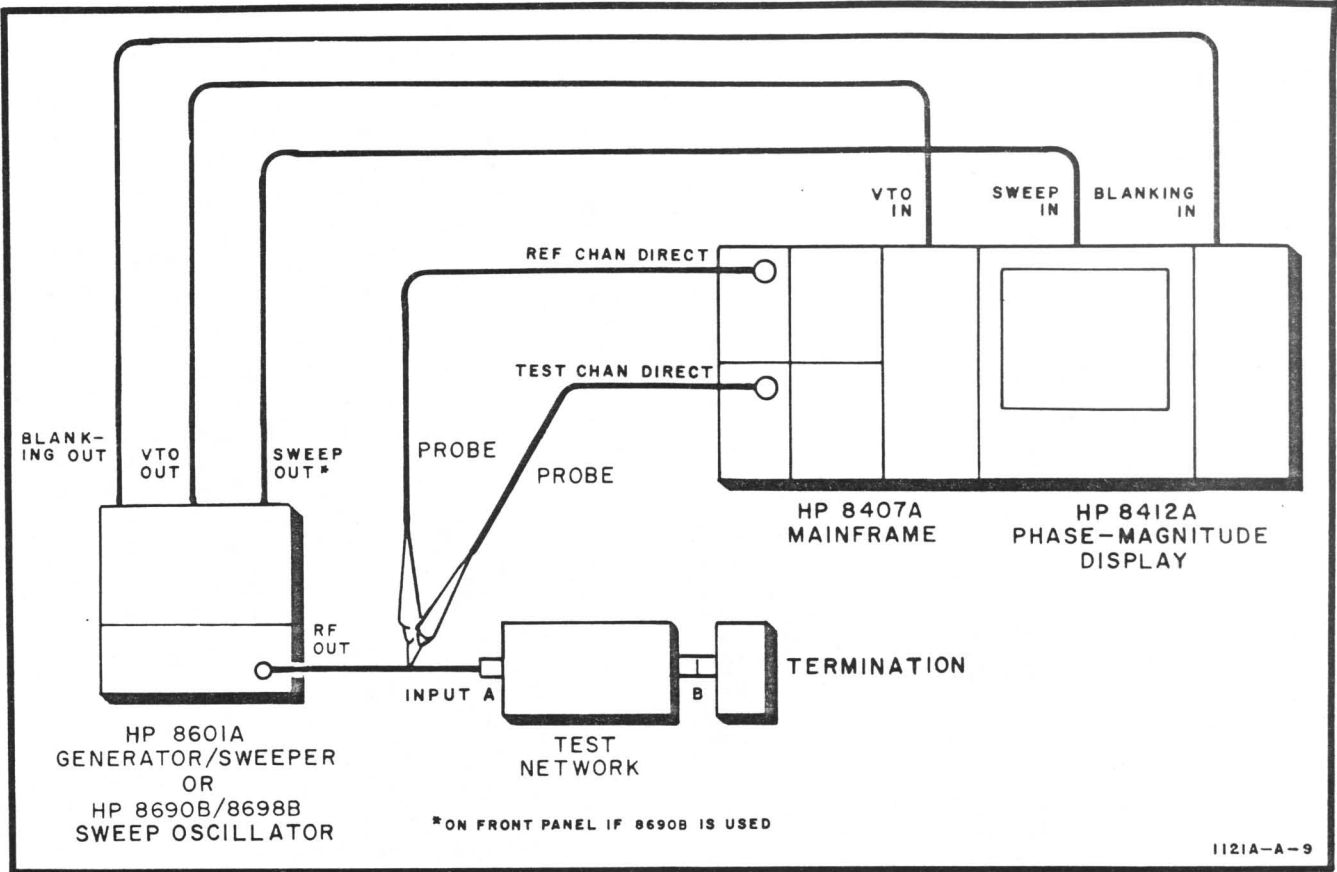

Figure 2. Using Model 1121A for Network Analysis
10. Figure 2 shows the measurement setup. The basic technique is to establish a 0 dB, 0 degree reference trace on the HP Model 8412A Phase-Magnitude Display. The
Model 1121A probe leading to the TEST channel is then moved to point B in Figure 2. The display shows the gain or loss and phase shift of the test network.
a. TEST SETUP. Connect equipment as shown in Figure 2 and adjust sweeper power output until REF CHAN LEVEL meter on the Model 8407A indicates in the operating range.
d. TEST. Move the probe leading to TEST channel to point B (Figure 2) and make the measurement